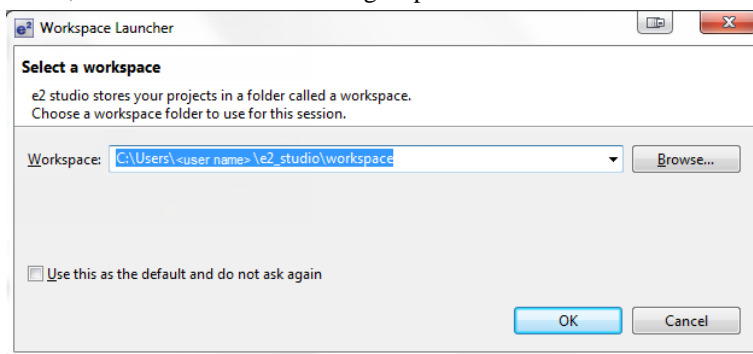

Figure 2.1 Workspace Launcher dialog
- A. At the end of e2 studio startup, you see the Workspace Launcher Dialog box as shown in Figure 2.1. (If you did not see this dialog box, you might have turned off it off. If that is the case, open your desired project and skip to step D.) Otherwise, continue with the following steps.